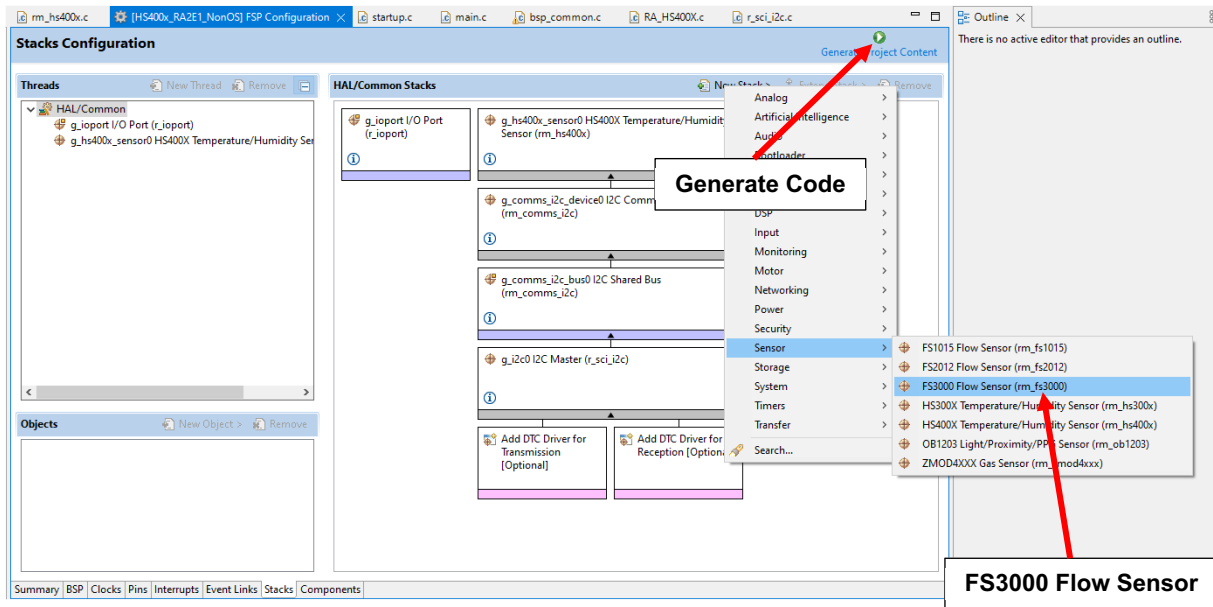

Figure 2. Stack Selection in Renesas e² Studio
1. Navigate to the file in the FSP Configuration View. In the case shown in Figure 2, select the FS3000 Flow Sensor.